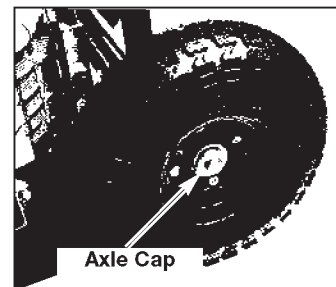

Figure 8
10. Tap axle cap (5) onto axle. See Figure 8. **NOTE:** Axle will need to be supported for axle cap to secure correctly.